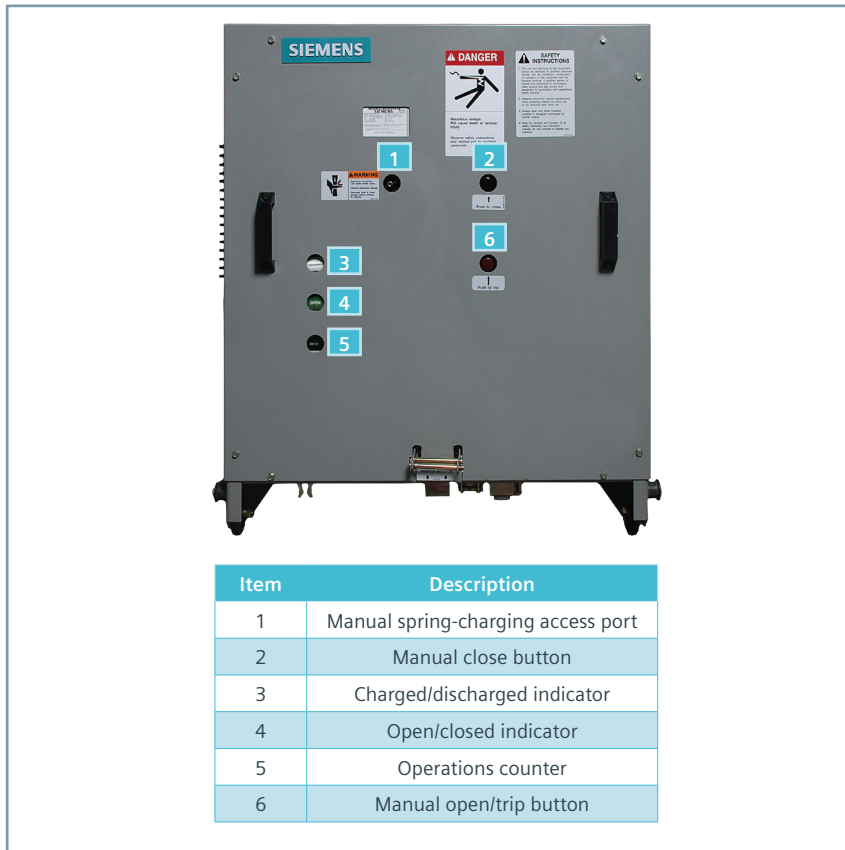

Figure 1: Type GMSG vacuum circuit breaker front panel controls
Refer to Figure 1: Type MSG vacuum circuit breaker front panel controls on page 8.
5. Use the close and trip controls (refer to Figure 1: Type GMSG vacuum circuit breaker front panel controls on page 8) to first close and then open the circuit breaker contacts. Verify the contact positions visually by observing the OPEN/CLOSED indicator on the circuit breaker.